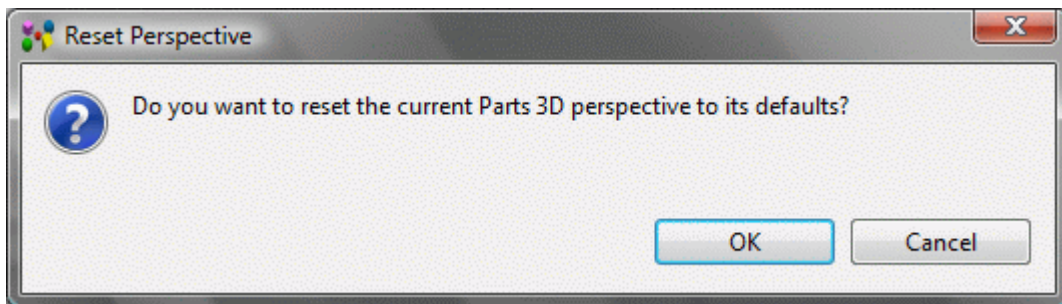

Figure 2. Reset perspective dialog window
- The **Reset Perspective** dialog window appears asking whether you want to reset the current perspective to it's defaults or not (see Figure 2).